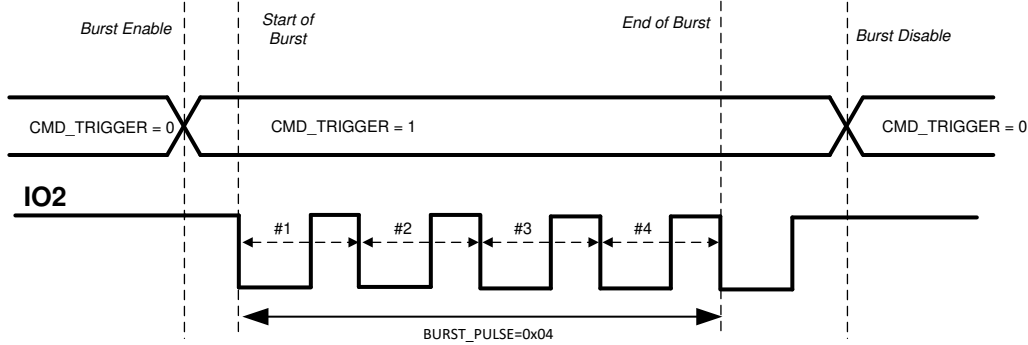

图 7-1. IO_MODE 0 Description
- **IO_MODE = 0:** In this mode, the external clock for the transducer is applied at the IO2 pin and the burst mode is enabled by setting the CMD_TRIGGER in the TOF_CONFIG register through SPI, as shown in Figure 7-1. The device then expects a clock at IO2 pin to generate pulses on the OUTA/OUTB pins. The start of burst happens from the first falling edge of IO2. The number of pulses are counted by counting falling edge to next falling edge transitions on IO2 once the start of burst is triggered. The end of burst sequence is signaled when the number of pulses defined in BURST_PULSE are sent, or when the CMD_TRIGGER = 0 is set through SPI, whichever occurs earlier. TI recommends that IO2 is held high before burst enable to count the number of pulses correctly. After the start of burst, the state of OUTA and OUTB pins are determined by IO1 and IO2 pins. A transition of CMD_TRIGGER from high to low to high again is required to initiate a new burst sequence.